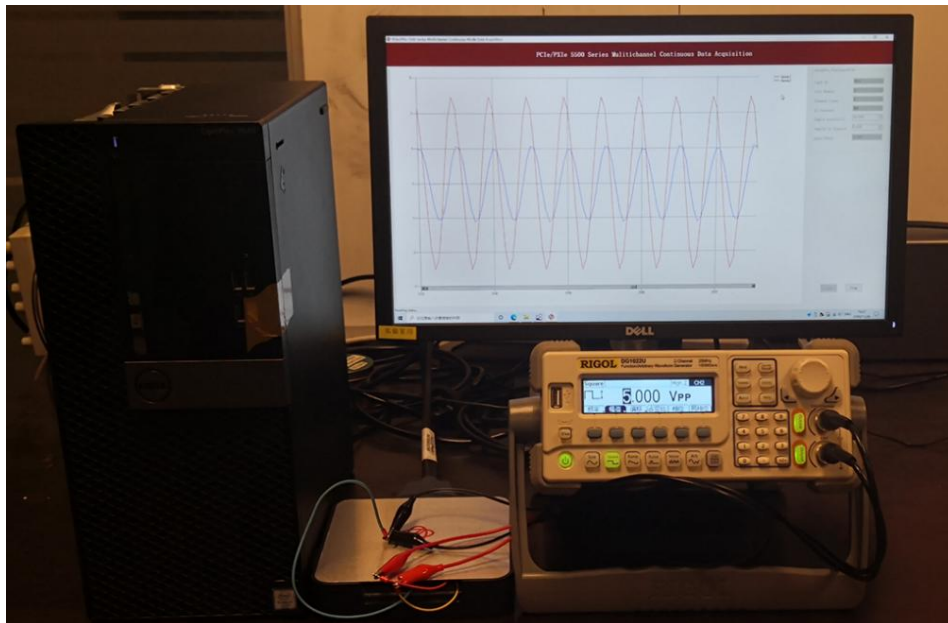
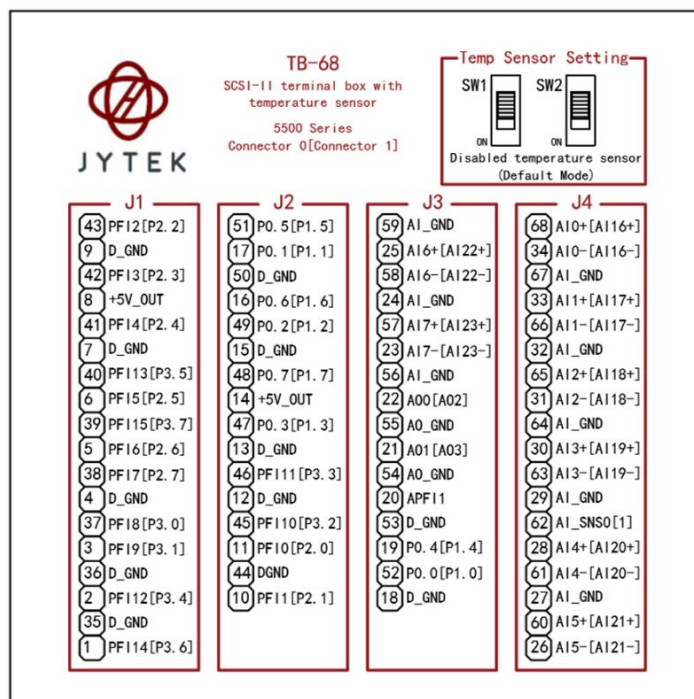

Figure 3 PCIe-5111 experiment
Figure 4 TB-68 Terminal Block
- Connect the two signal source's positive outputs to PCIe-5111 AI Ch0 (AI0+, Pin #68) and AI Ch1 (AI1+, Pin#33), two negative terminals to the ground (AI_GND, Pin#67) as shown in Figure 3 and Figure 4 (AI0+, AI_GND) and (AI1+, AI_GND) consist of two channels of RSE inputs and they share the same GND.
- Connect the two signal source's positive outputs to PCIe-5111 AI Ch0 (AI0+, Pin #68) and AI Ch1 (AI1+, Pin#33), two negative terminals to AI Ch0 negative (AI0-, Pin#34) and AI Ch1 negative (AI1-, Pin#66) as shown in Figure 3 and Figure 4. (AI0+, AI0-) and (AI1+, AI1-) consist of two pairs of DIFF inputs;
- This Example needs two TB-68 terminal blocks, Connector0 and Connector1 and two cables, which are connected to PCIe-5111. Connect the two signal source's positive outputs to PCIe-5111 AI Ch0 (AI0+, Pin #68) and AI Ch1 (AI1+, Pin#33), two negative terminals to AI_SENSE 0 (Pin#62) of the first TB-68 and AI_SENSE 1 (Pin#62) of the second TB-68 as shown in Figure 3 and Figure 4. (AI0+, AI_SENSE 0) and (AI1+, AI_SENSE 1) consist of two channels of NRSE inputs.
- Connect the signal source's positive terminal to PCIe-5111 AI Ch0 (AI0+, Pin#68), the negative terminal to the ground (AI_GND, Pin#67) as shown in Figure 3 and Figure 4. (AI0+, AI_GND) consists of a RSE input.